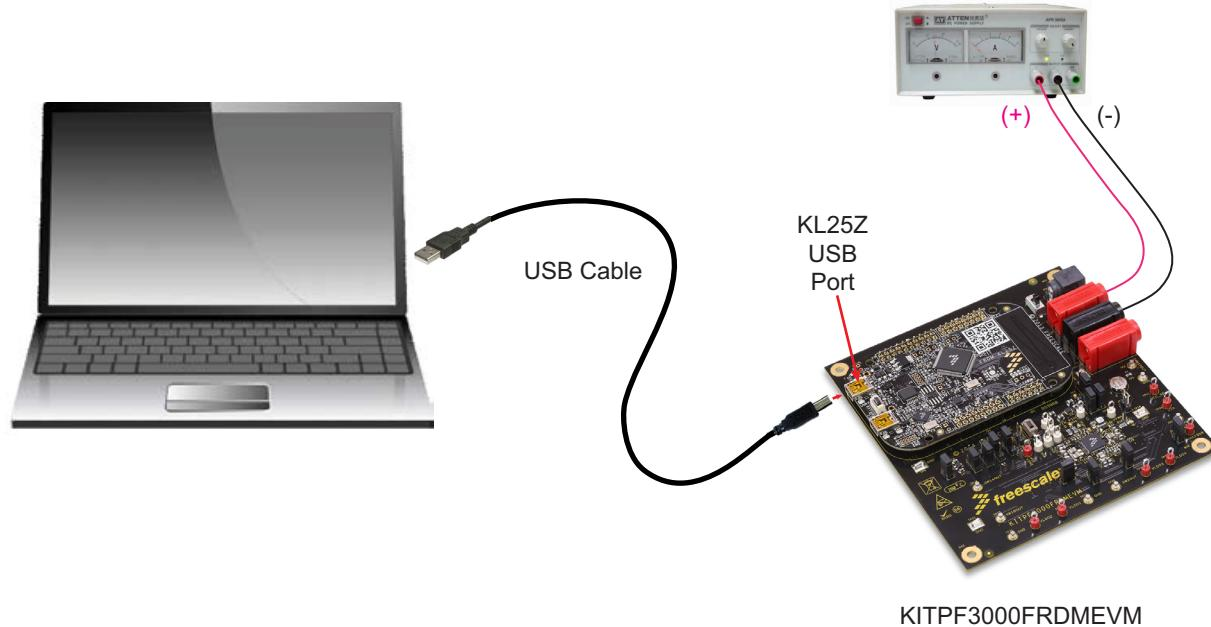

Figure 8. Hardware Configuration
2. Plug the mini-USB side of the mini-USB to USB cable into the KL25Z USB port on the FRDM-KL25Z board and the other end to an available USB port on the PC as shown in Figure 8.